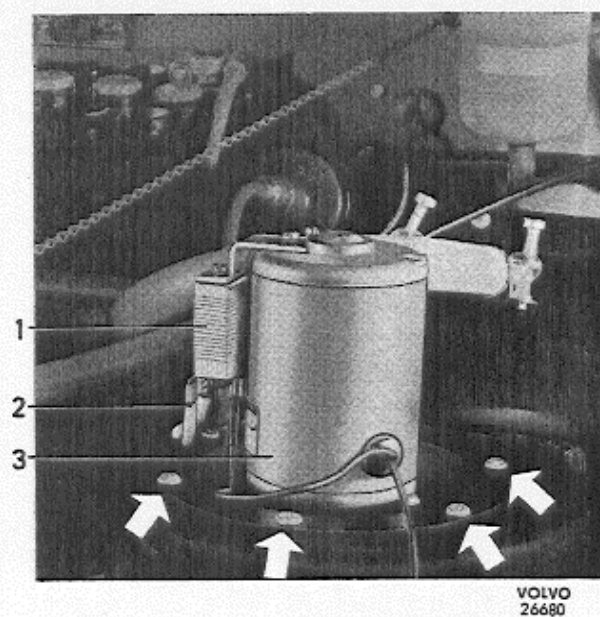

Fig. 92. Fan motor for heater.
2. Unscrew the six screws which hold the fan motor to the radiator casing. The screws are marked with arrows in Fig. 92 (two screws are hidden).